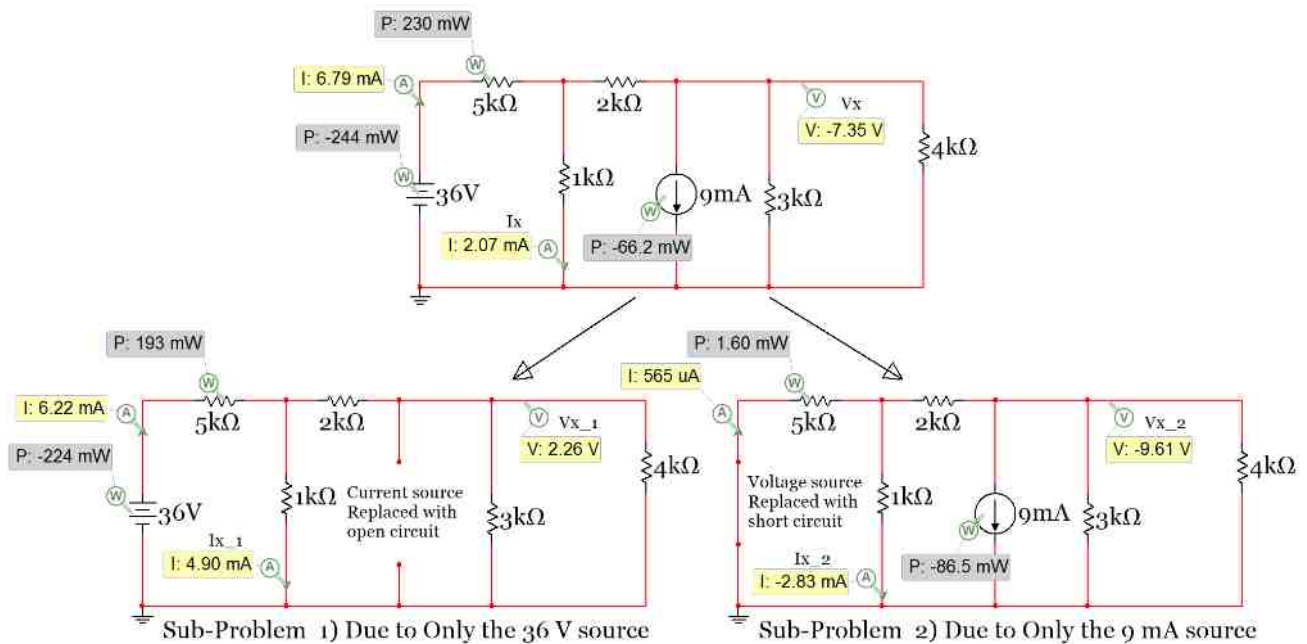

Figure 2.35: Circuit for Example 2.16
Since there are 2 independent sources this circuit requires 2 sub-problems when using the superposition solving technique. First,  $V_x$  and  $I_x$  will be solved Due to Only the 36 V source (bottom left circuit in Figure 2.35). Notice how the 9 mA source is “zeroed out” by replacing it with an open circuit.
- $I_x = I_{x_1} + I_{x_2} = 4.901 \text{ mA} - 2.827 \text{ mA} = \mathbf{2.074 \text{ mA}}$  (Matches top circuit in Fig 2.35)
- $V_x = V_{x_1} + V_{x_2} = 2.261 \text{ V} - 9.613 \text{ V} = \mathbf{-7.352 \text{ V}}$  (Matches top circuit in Fig 2.35)
One very important limitation of the superposition method is that power CANNOT be determined by adding up the power that was supplied or dissipated in a component due to each source. You can only find the voltage or current due to only one source and add them up. Power probes were included in the circuit in Figure 2.35 (see gray shaded probes) and the values are shown below: